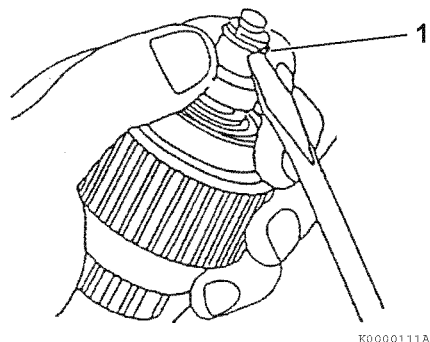

Figure 11-10
11. Using a flat-blade screwdriver, remove the retaining ring (1, **Figure 11-10**) from the shaft of the pinion.